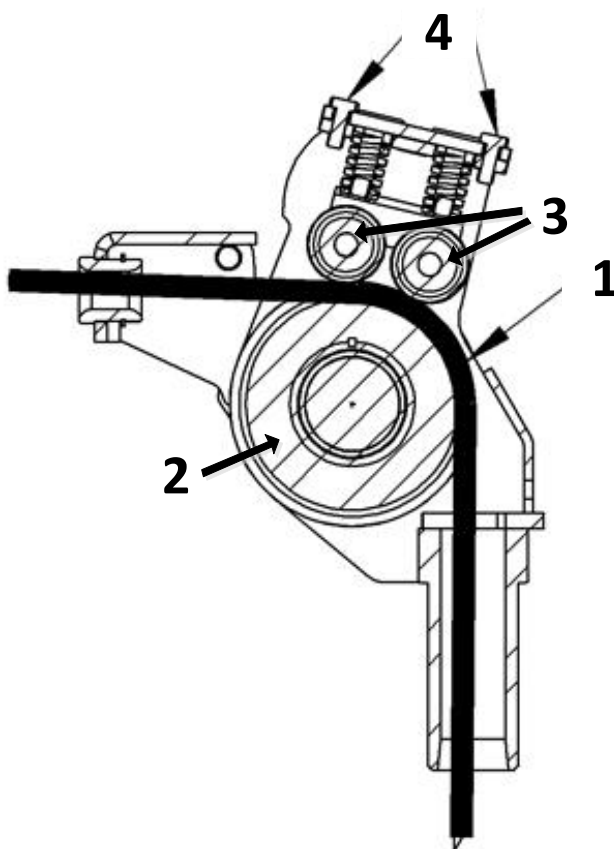

Figure 12a
When you start unwinding the wire rope, adjust the force of the safety brake on the drum, so that the wire rope does not unwind on the drum (See instructions for using the winch, Safety brake settings). Next you must set the pulling force of the small sheave (pos. 3, figure 12a) on the larger sheave. If the rope is slipping on the larger sheave (2), increase the force of the small sheave using the adjustment screws (4). In case the larger sheave (2) is not spinning, decrease the pulling force of the small sheave (3) using the adjustment screws (4).